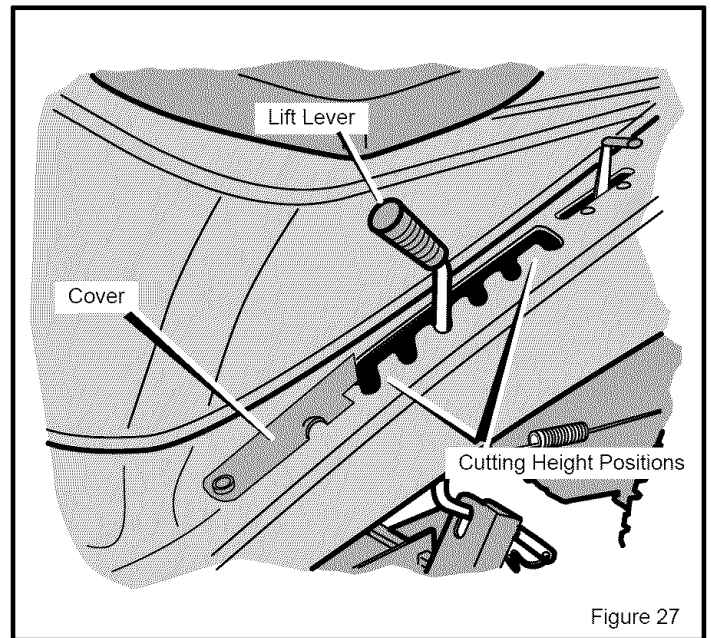

Figure 27
7. Raise the lift lever from the LEVEL ADJUSTMENT position to a CUTTING HEIGHT position (Figure 27).